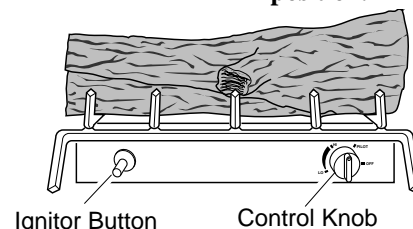

Figure 23 - Control Knob and Ignitor Button Location
- Wait five (5) minutes to clear out any gas. Then smell for gas, including near the floor. If you smell gas, STOP! Follow "B" in the safety information, page 16. If you don't smell gas, go to the next step.
- Press in control knob and turn counterclockwise  to the PILOT position. Keep control knob pressed in for five (5) seconds (see Figure 23, page 16).